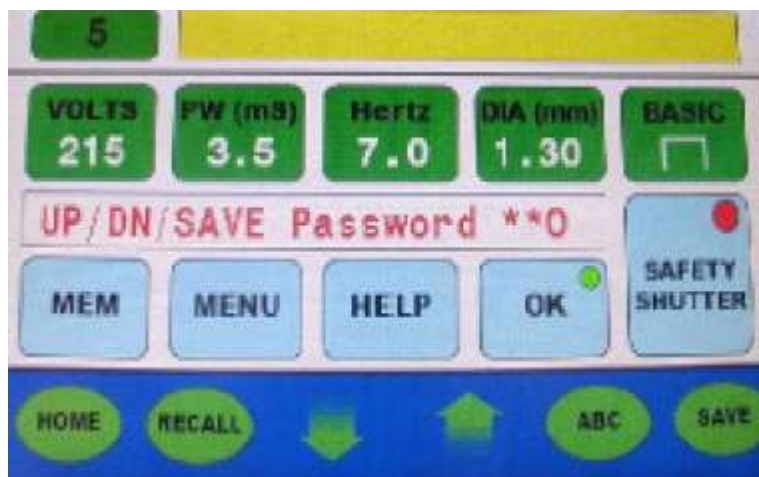

Figure 8
4. Press the **menu button** on the password screen a (*) is inputted into the field for the second number. Now, press the **up arrow** to assign the third digit the last digit, "8," will begin blinking (**figure 8**).